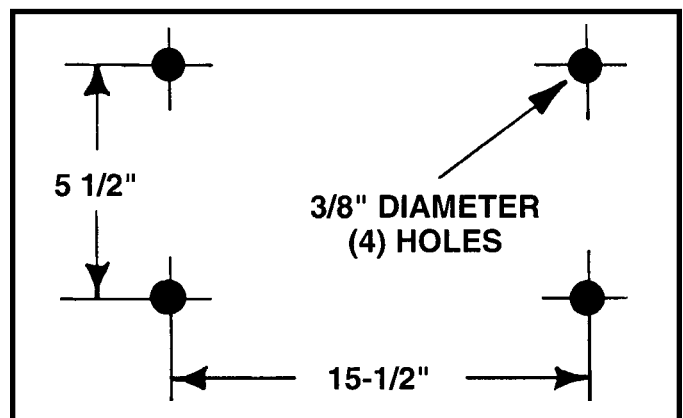

Fig. 16
2. The diagram, shown in Fig. 16, illustrates the size and center to center distance of the holes to be drilled in the stand or workbench.